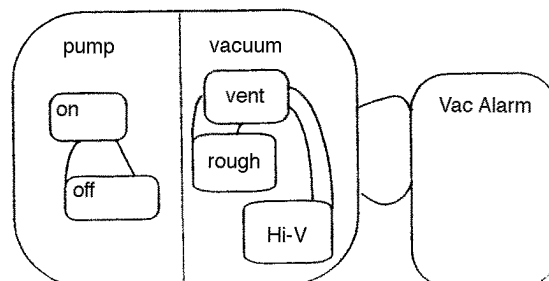

Figure 3
9.9.1 Please refer to Figure 3 in order to follow the discussions for the notations. In Harel notation, ‘pump’ and ‘vacuum’ are concurrent states. The text to specify this relation in a response to a request for state is ‘pump, vacuum’. The comma can be read as meaning ‘and’. ‘on’ and ‘off’ are sub-states of ‘pump’. ‘vent’, ‘rough’, and ‘Hi-V’ are sub-states of ‘vacuum’. The sub-state syntax is ‘state/sub-state’ where the ‘/’ can be read as ‘is in sub-state’. So using the example in Figure 3, if the pump is off and the vacuum is vented, then the text message which conveys this is ‘pump/off, vacuum/vent’. This message can be shortened to ‘off,vent’ because there is no ambiguity in doing so.